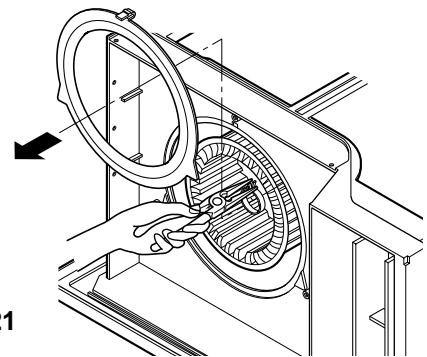

Figure 21
7. Remove the orifice from the air guide carefully. (See Fig. 21)
8. Remove the clamp which secures the blower with plier. (See Fig. 21)